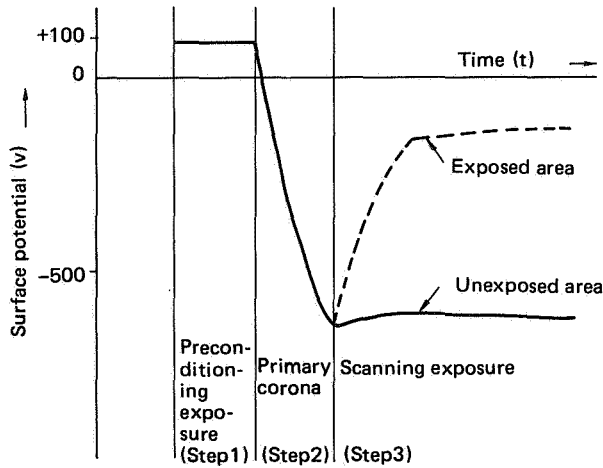

Figure 2-14 Surface potentials
**Note:** The potential of the exposed areas of the drum surface is illustrated as positive, though it is actually slightly negative (as shown in Fig. 2-14). This means that the drum surface potential is higher compared with the cylinder potential applied by the DC bias.